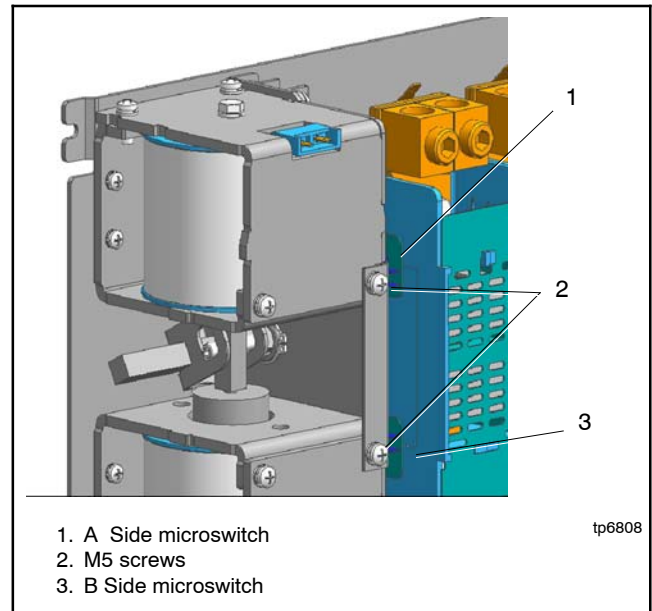

Figure 7-63 Microswitch Disassembly
1. Remove the two M5 screws. See Figure 7-63.